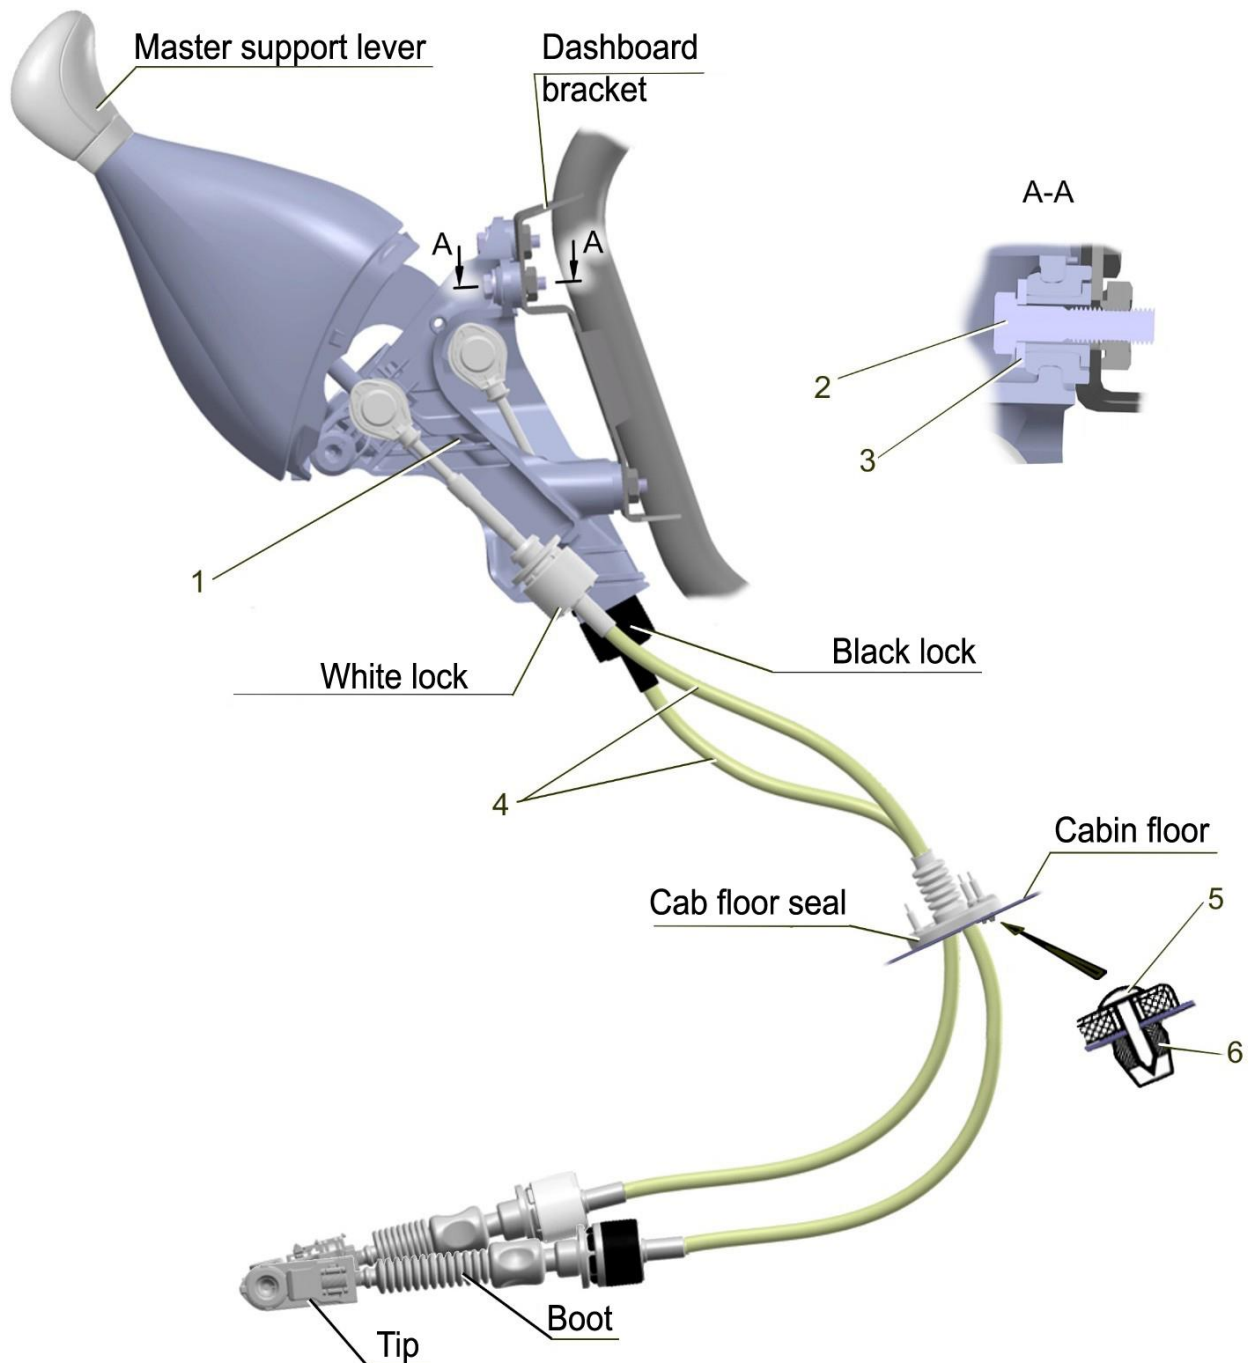

Fig. 3.27. Master support with cables installation: 1– master support; 2– bolts; 3– washers; 4 – cables; 5 – screws; 6 – nuts.
- remove the floor mat, unscrew two floor cable gland mounting screws (Fig. 3.27);
In case of replacement of the polyamide nuts 6 (Fig. 3.27) fastening the cable gland to the cabin floor, install new nuts as shown.
- fasten the cables in the master support bracket sockets (to click) as shown in Fig. 3.27;